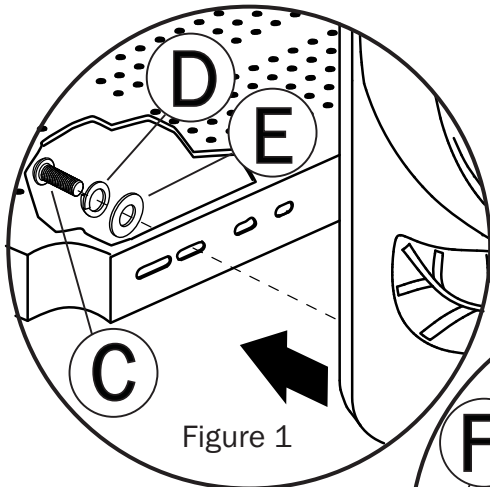

Figure 1
1. Position Ship's Wheel Panel (A) against side of Deck. Align bottom holes in Ship's Wheel Panel(A) with slots in Deck.
2. From underside of deck insert Bolt(C), Lock Washer(D) and Flat Washer(E) into slot in Deck and into threaded insert in Ship's Wheel Panel(A). Repeat for other side. See Figure 1.
- NOTE: Use (2) outside inserts only.**